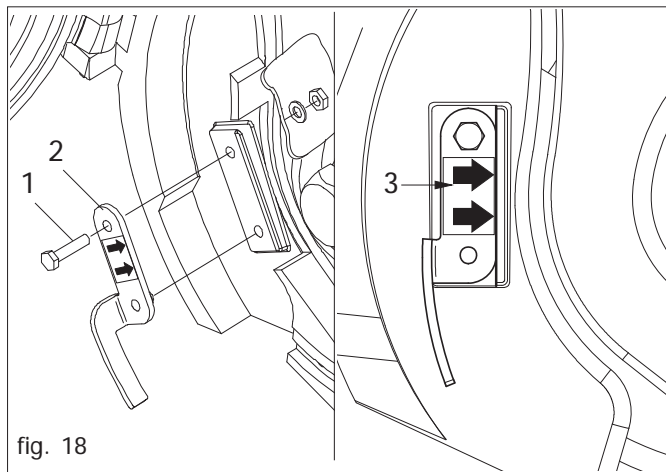

fig. 18
Loosen the screws (1 Fig. 18) and remove the expeller (2).
Position the expeller (2) as shown in Figure 18.
keeping the expeller pressed against the edge, obtained in the relative seat (3 Fig. 18), block it by the screw (1) kit. The screw is to be mounted only as shown in the picture. Do not interpose any thickness between the expeller and its seat.